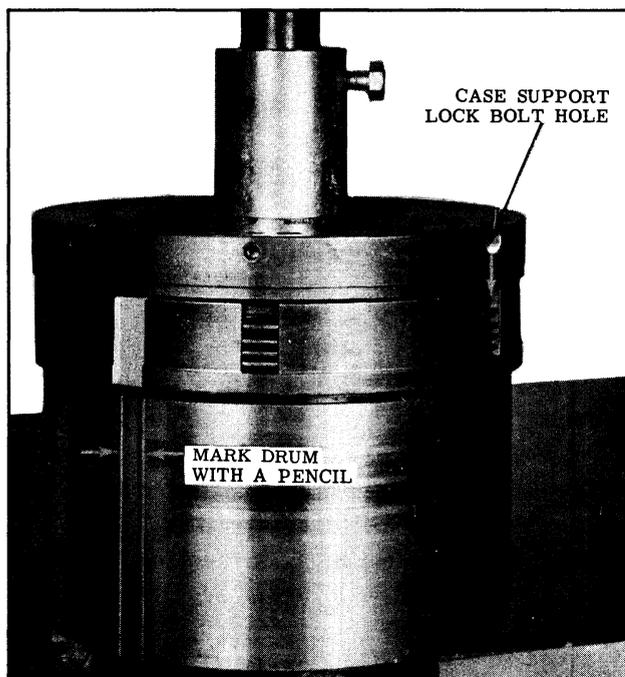

Fig. 3-89 Correct Alignment
2. Hold neutral clutch drum and turn case support to align case support lock bolt hole with center of clutch plate drive lugs as shown in Fig. 3-89. Mark rear drum with a pencil as shown.